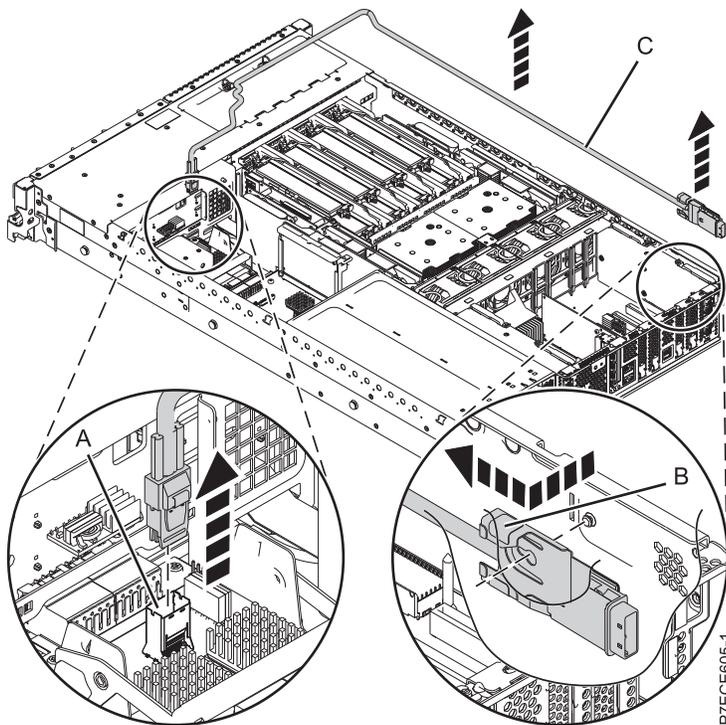

Figure 38. Removing the external SAS port
7. Press the side tab **(B)** and pull out the SAS shroud from the external SAS connection port on the disk drive backplane. See Figure 38.